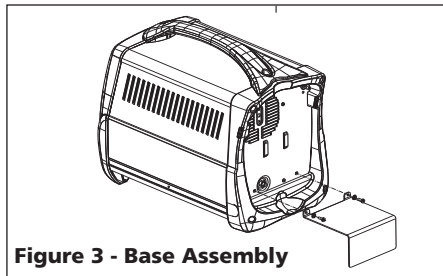

Figure 3 - Base Assembly
3. Attach cylinder base to unit as shown (Fig. 3).